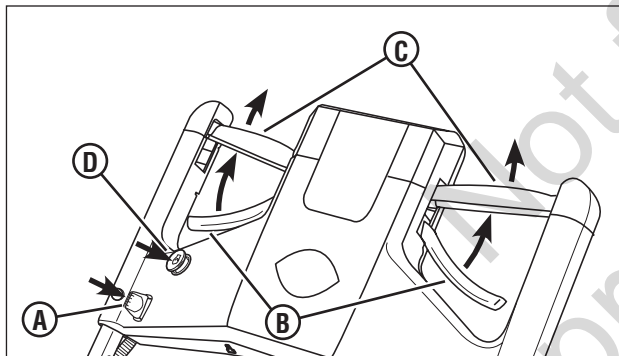

Figure 3: Starting the mower
1. Plug the starter insert **(A, Figure 3)** into the connection slot in the control console.